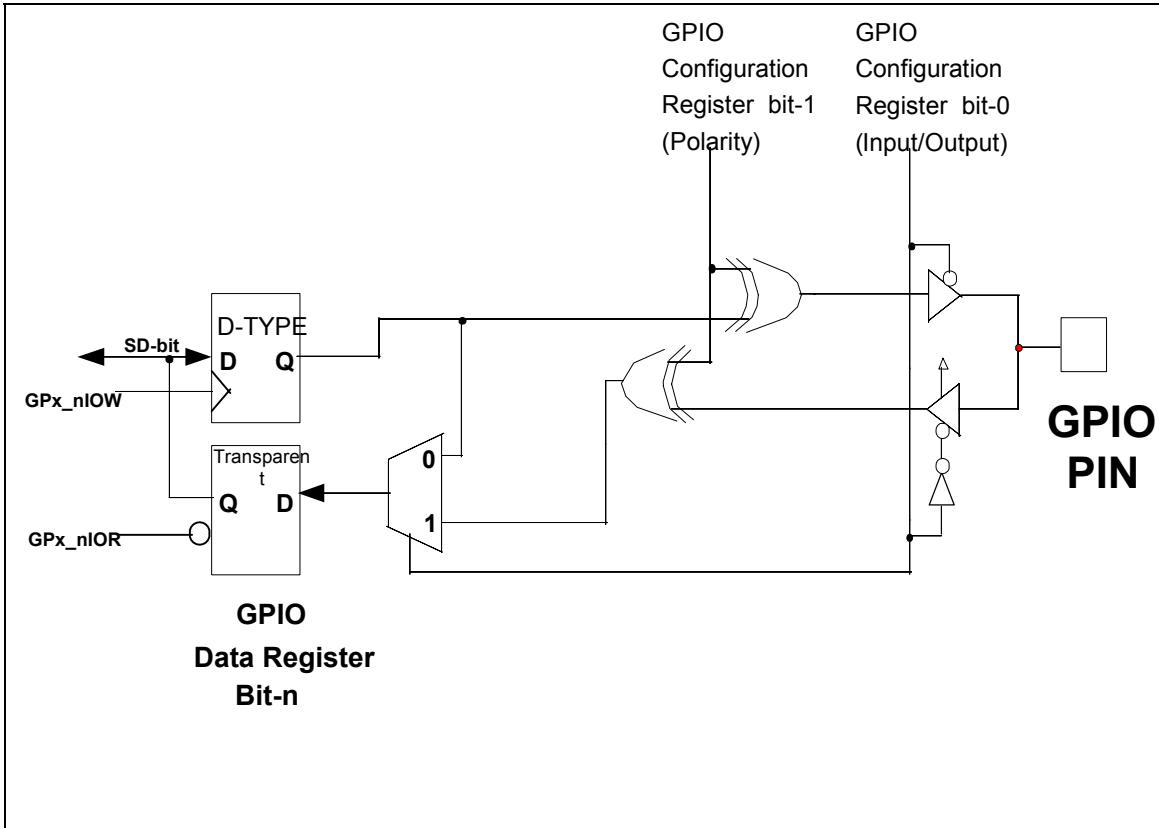

Figure 7.4 – GPIO Function Illustration
The operation of the GPIO ports is illustrated in Figure 7.4.
**Note:** Figure 7.4 is for illustration purposes only and is not intended to suggest specific implementation details.